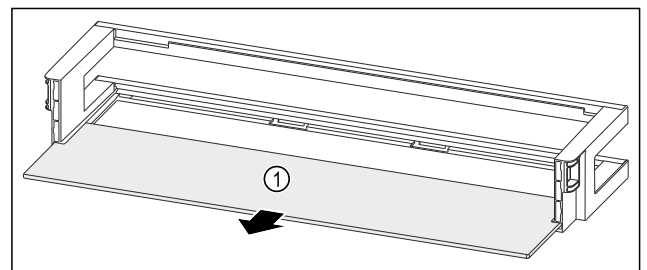

Fig. 136 Door rack with shelf
- ▶ Remove the shelf Fig. 136 (1).